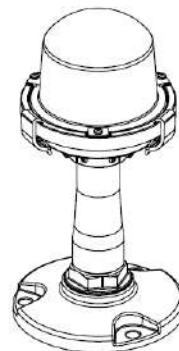

Figure 5-6
- Fetch a new lamp to make its square opening stick to the gasket and make its the other end enter the neck and press it down; after the lamp is fixed, insert its pin into the wire holder; finally buckle the hinge. Please note that the lamp wire shall not be pressed (see Figure 5-6).